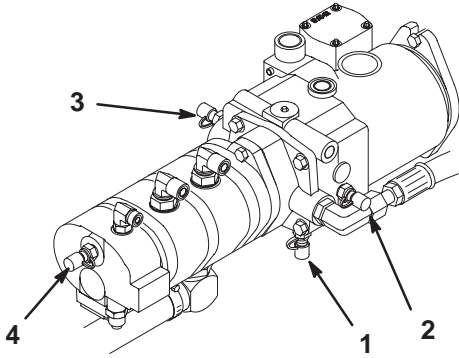

Figure 61
4. Test Port “D” is located on the bottom of the hydrostatic transmission (Fig. 61) and is used to measure the charge pressure of the transmission.
5. Test Port "E" is used to measure traction forward pressure (Fig. 61).
6. Test Port "F" is used to measure traction reverse pressure (Fig. 61).
7. Test Port "G" is used to measure steering circuit pressure (Fig. 61).